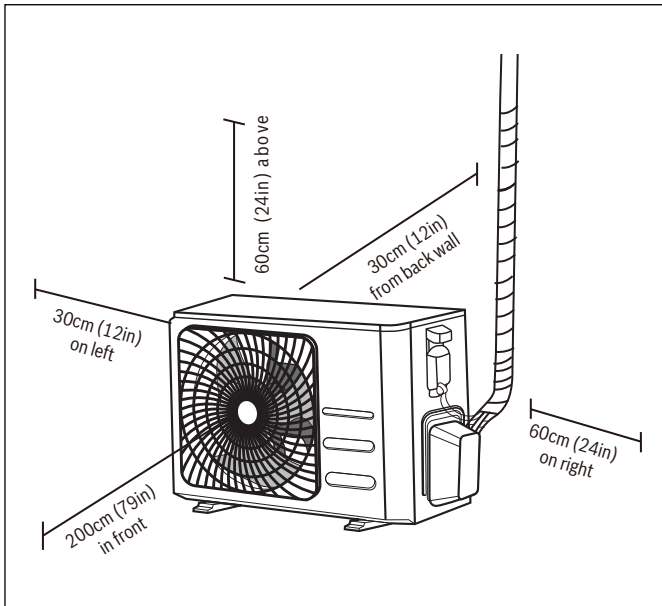

Figure 42
- Meets all spatial minimum requirements shown in Installation Space Requirements (Figure 42)